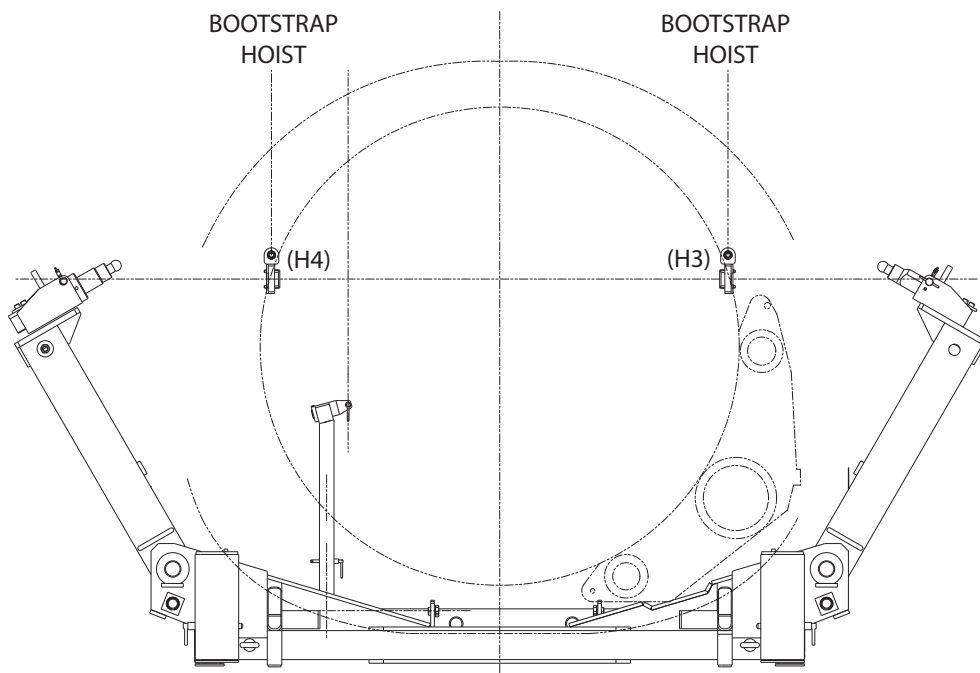

Figure 5.3-1
- 7) Remove the forward mount trunnion-retaining pins from both left (H3) and right (H4) saddles (item 4811 and item 4825).
- 8) Slide the left hand (H3) forward mount trunnion shaft (item 4815) outboard.
- 9) On the right hand forward mount (H4), loosen the spanner nut (item 4821) to allow the trunnion shaft to fully retracted (outboard position).
- 10) Install the right and left hand mount insert assemblies, items 4223 and 4224, to the engine mount positions H3 and H4. Torque the ¼ inch diameter socket head retaining screws (item 4206) to 7 Ft-Lbs. Install the bootstrap systems hoist connector to the insert lugs. Follow the bootstrap systems installation instructions for the aft mount position.
- 11) Remove the forward support arm retaining pins (item 4832) and swing the arms outboard until they come to rest.
- 12) Position the base and cradle beneath the engine by approaching from the forward end. Align the forward mount trunnion with the installed inserts, per Figure 5.3-1. The steering bars can be used to position the casters to aid in stand alignment.
- 15) Remove both support arm lower retaining pin (item 4832) and rotate the arms outboard until they come to rest, see Figure 5.3-1.
- 19) Remove the forward mount insert assemblies (items 4323 and 4224) from the H3 and H4 engine mount positions and store in the mount storage boxes.
- 21) Rotate the forward support arms to the vertical position and insert the item 4832, lower retaining pin. Store the aft H9 support arm by pinning it to the cradle frame with the support clips provided.